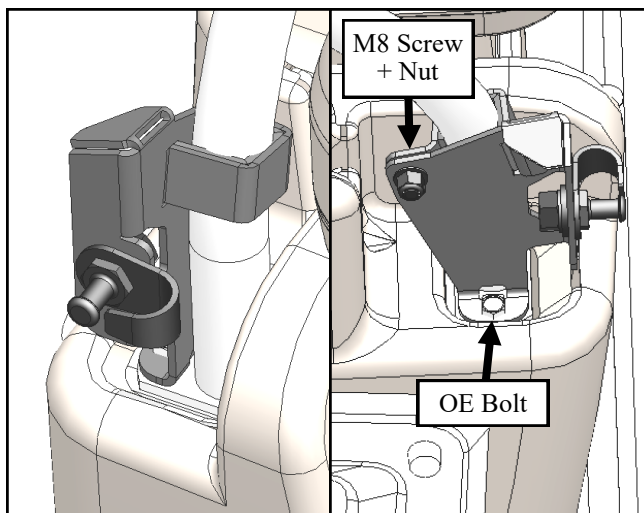

Fig. 2.3 & 2.4 (Right Latch Bracket)
- 2.3 Loosely install the bracket by wrapping the U-Bracket around the hip restraint tubing. Secure with the provided hardware. See **Fig 2.3**.